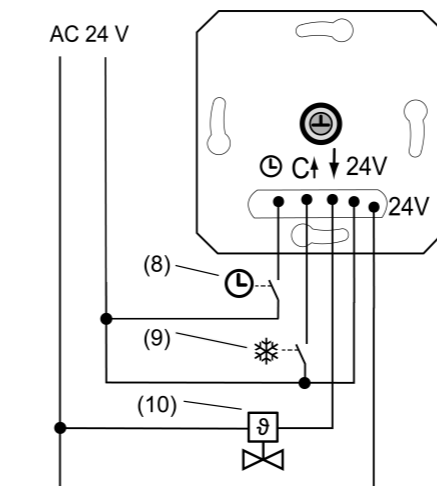
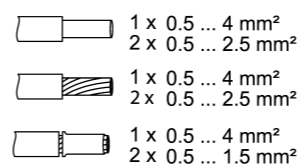

Figure 2: Connection example of the insert
Figure 3: Clampable conductor cross-section
- Connect electrothermal valve drive (10) to insert (1) according to connection diagram (Figure 2). Observe the conductor cross-sections (Figure 3).
- Optionally, connect the ECO operation input \ominus via a switching contact of a central clock (8). If 24 V is applied to the input, the setpoint temperature is reduced by 4 °C, exclusively in heating mode.
- Optionally, connect the cooling input **C** via a switching contact of the heating system (9). If 24 V is applied to input **C**, the cooling mode is active. If 24 V is switched off, the device automatically switches to heating mode. After each switchover, the LED lights up for 10 seconds in the colour of the current operating mode.